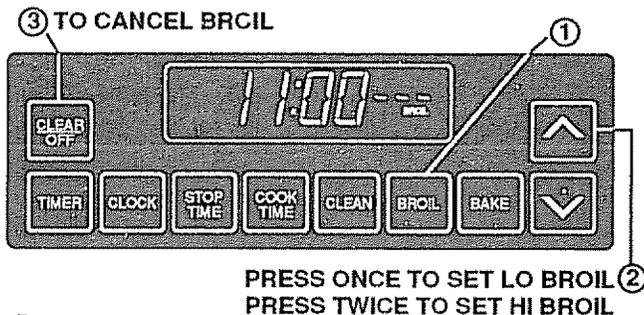

FIG. 5
1. Press **BROIL**. "BROIL" will flash and (- - -) will appear in the display. See Fig. 5.